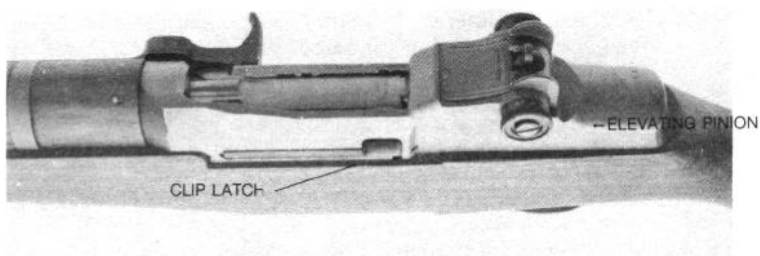

Figure 12. Controls.
- d. Cock the rifle and place the safety in safe position (fig. 12).